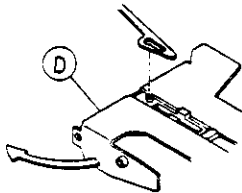

FIGURE 4-27. EJECT ARM
- d. Mount the eject frame assembly F (see Figure 4-27).
- g. Under cassette-in condition, insert the slider shaft F into the eject arm, and mount it as illustrated by rotating it in direction shown by the arrow (see Figure 4-27).